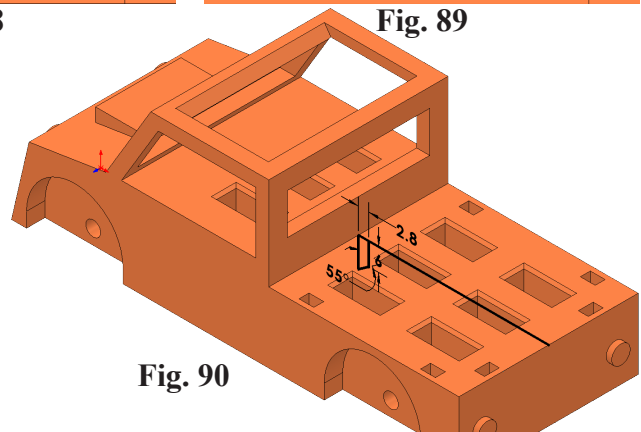

Fig. 90
Step 9. Rotate view to view rear, **Fig. 90**. To rotate view, click **Isometric**  on the Standard Views toolbar (**Ctrl-7**), then in bottom left corner of graphics area **Shift** click the **Y axis** of the Reference Triad